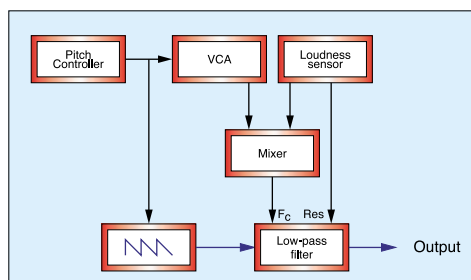

Figure 7: How the loudness can control the harmonic characteristics.
Now let's consider the brightness of the sound. Last month, I looked at the steady-state spectrum of the waveform as produced at different pitches, but let's quickly recap. You should recall that louder notes have more harmonics than quieter ones. Figure 7 shows how we can achieve this using the pitch CV and a loudness sensor to affect the cutoff frequency of a low-pass filter. Furthermore, you know that the loudest
- harmonic need not be the fundamental (as in overblown notes). Again, Figure 7 provides a solution: by making the resonance proportional to the loudness, you ensure that high harmonics are accentuated to a greater and greater degree as we play louder and louder. But neither last month's analysis nor Figure 7 tells you what happens at the start of the note...